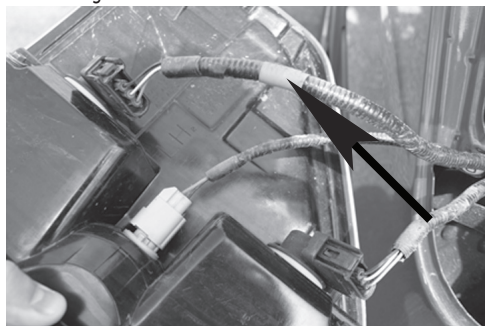

Figure 2
3. Locate vehicle's factory wiring harness connectors shown in **Figure 2**. The connectors will be similar to those on RV harness. Separate connectors from both sides and set aside. Inspect connectors for dirt and debris and clean if necessary. Note the top wire harness portion is identified with a marker tape when re-installing.